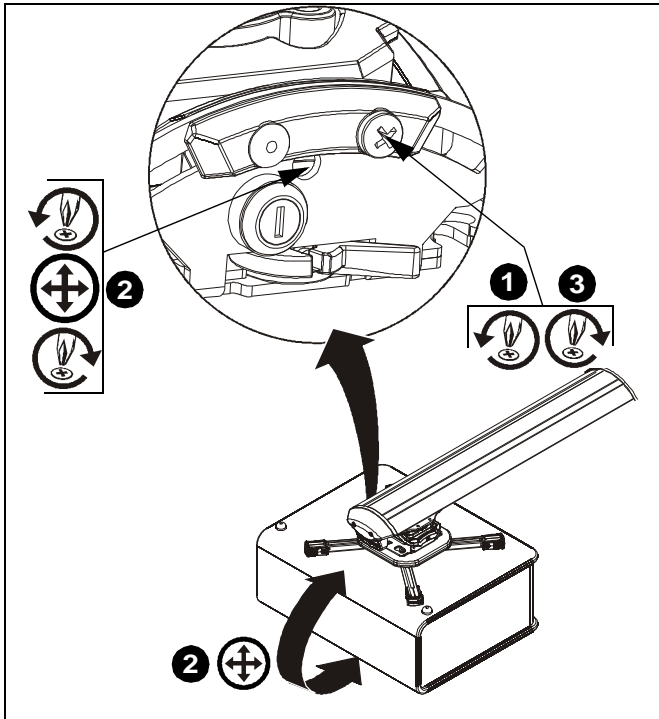

Figure 19
1. Loosen Pitch adjustment locking screw using a #2 Phillips screwdriver. (See Figure 19)
2. Turn Pitch micro-adjustment screw right or left using a #2 Phillips screwdriver until image is properly aligned on target. (See Figure 19)
3. Tighten Pitch adjustment locking screw using a #2 Phillips screwdriver. (See Figure 19)